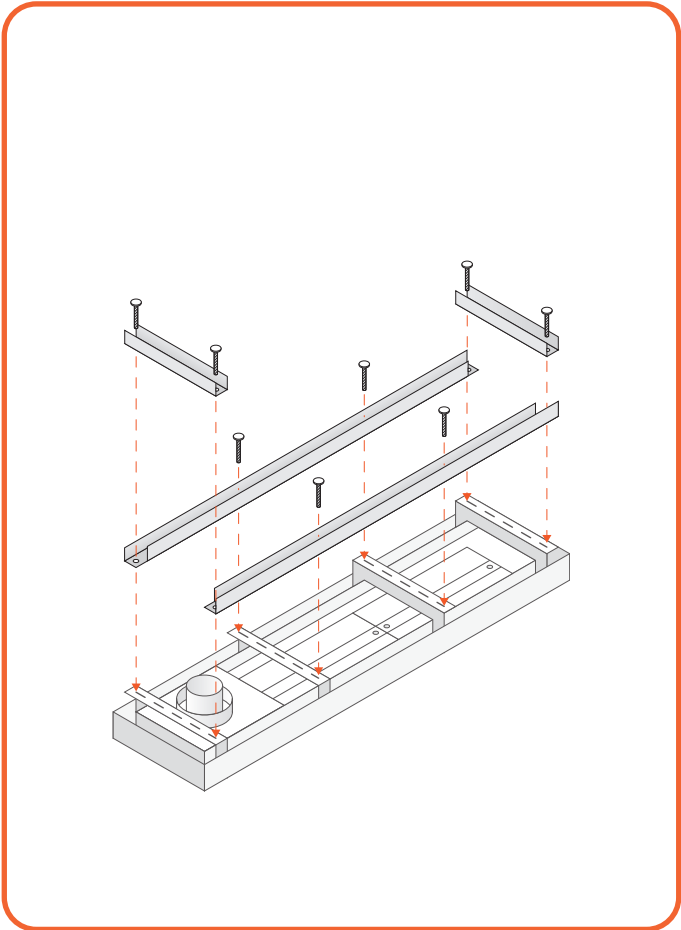
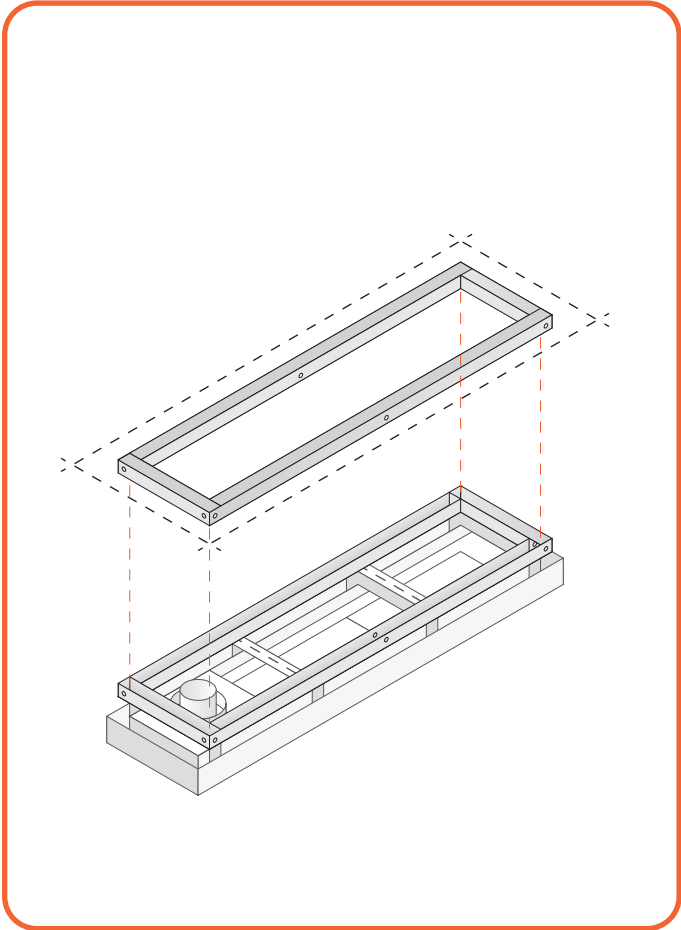

Figure 8.6 - Create a frame on top of the fireplace
Figure 8.8 - Align both frames
- First of all, create a frame for the fireplace itself and the same frame for the ceiling (Figure 8.6 to Figure 8.8).